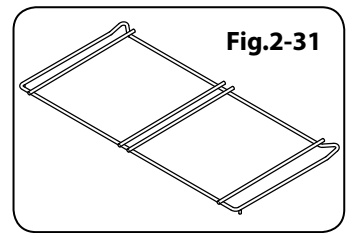

Fig.2-31
- Grill pan tray support (Fig.2-31)